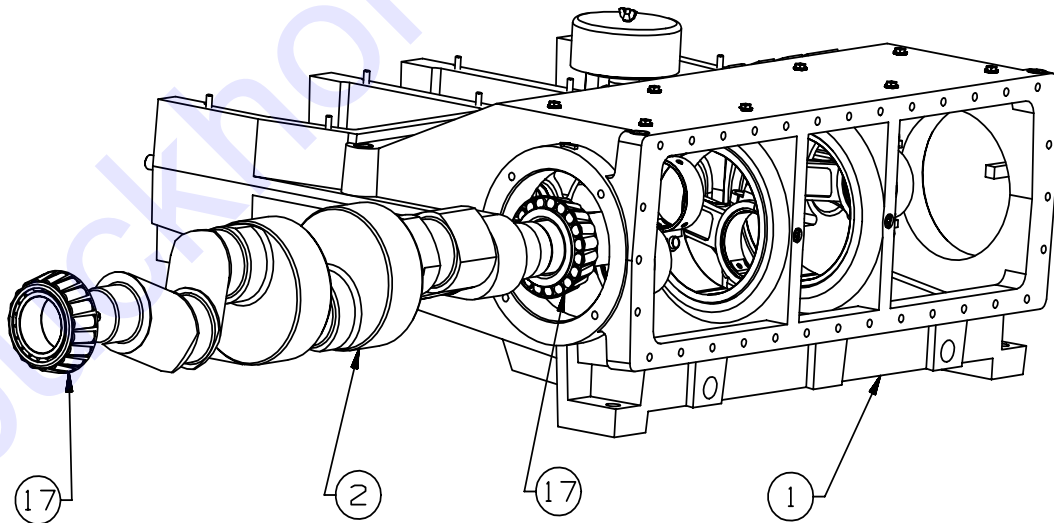

Figure 11: Removing the Crank Shaft
11. To remove the crankshaft (2) work it through one side of the bearing housing opening in power frame (1). The throws may have to be rotated as the crank is removed to clear the connecting rods. The crankshaft should be handled very carefully to prevent the critical bearing surfaces from being scratched or damaged. See Figure 11. See Section 13.0 for a tool to lift the crankshaft.